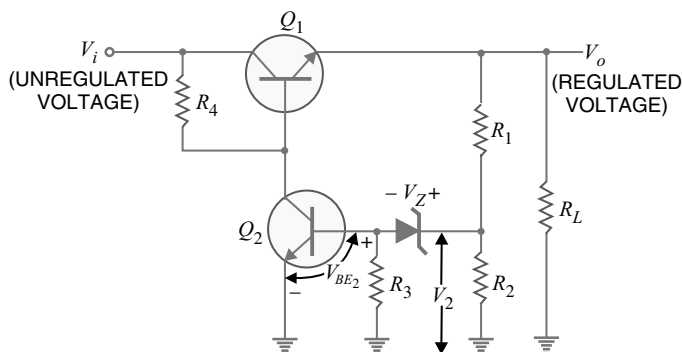

Fig. 15.33
3. What regulated output voltage is provided by the circuit of Fig. 15.33 for circuit elements :  $R_1 = 20$  k $\Omega$ ,  $R_2 = 30$  k $\Omega$  and  $V_Z = 8.3$  V? [15 V]